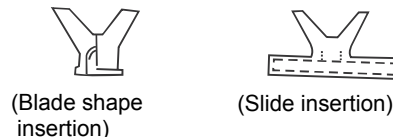

Fig.3
- Low voltage control connections are made to low voltage pigtails extending from top of air handler (upflow position - see Figure 3). Connections for control wiring are made with wire nuts. Control wiring knockouts (5/8 and 7/8) are also provided on the right and left side of the unit for side connection.